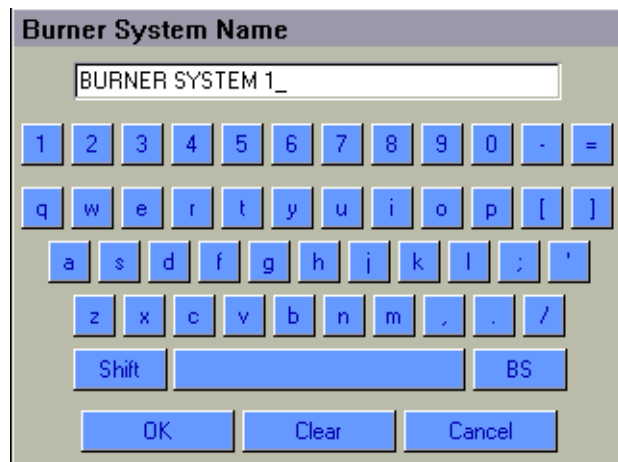

Fig. 101. Burner System Name—Enter Name.
3. Type in the name (Fig. 101).
3. Edit the name (Fig. 101).